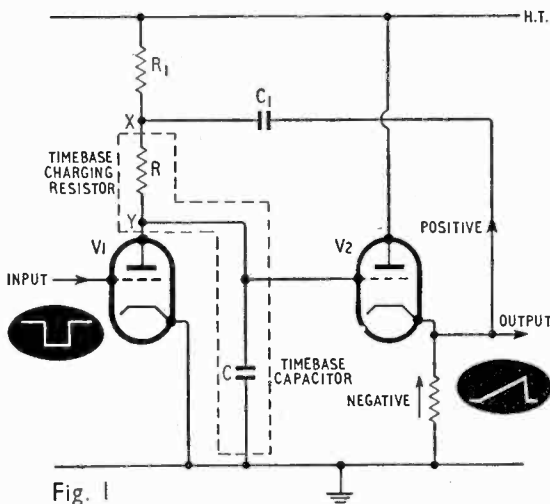

Fig. 1
set; the transmitter itself and the aerial system are disposed in the same way as before (Figs. 1 and 4). The slave stations are stowed on board the ship in transit, and are then taken ashore in small boats or helicopters and set up for the duration of the survey. To assist stowage and transport, the units are housed in standardised boxes of the type used for Army signals equipment: hydrographic surveys are in the nature of military operations, and every possible effort has to be made to ensure mobility as well as reliability in the equipment that the modern surveyor employs.
**A** TIMEBASE circuit which uses both positive and negative feedback is shown in Fig. 1. Known commonly as a "bootstrap" timebase, it comprises:—(i) A switch, consisting of a triode V1 operated by a negative-going square wave pulse, shunting the timebase capacitor C. (ii) A charging resistor, R, across which a constant potential is maintained. (iii) A triode, V2, connected as a cathode-follower amplifier, i.e., with current negative feedback, and developing unity gain. (iv) A capacitor, C1, providing positive feedback to V2, the feedback voltage being developed across the timebase charging resistor R.
The operation of the circuit is as follows. An initial quiescent state is assumed with V1 conducting and V1 anode at a low potential. A negative-going square wave cuts off V1, and the timebase capacitor C starts to charge via R. If point X in Fig. 1 had been connected to a fixed h.t. potential C would have charged in an exponential fashion. To provide linear charging we endeavour to keep the potential across R constant so that the current through it is constant also. In other words, the waveform generated at Y must also appear at X. (Hence the description "bootstrap" timebase—derived from the notion of pulling oneself up by one's bootstraps.)